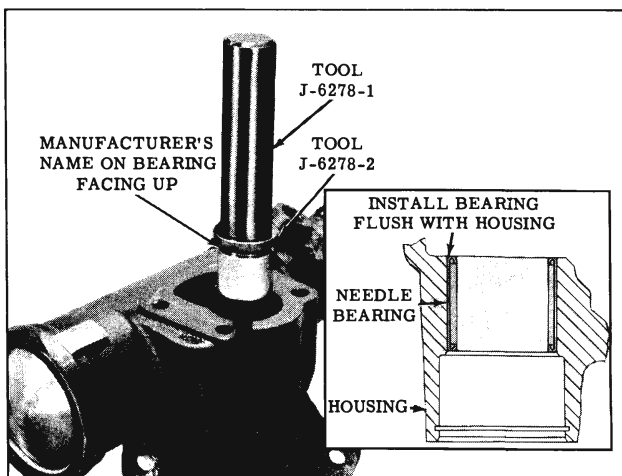

Fig. 4-271 Installing Pitman Shaft Bearing
1. If the pitman shaft needle bearing was removed, place Adaptor J-6278-2 over Tool J-6278; slide the new needle bearing on the tool with the bearing manufacturer's identification against the adaptor and drive the bearing into the housing until adaptor bottoms in housing. (Fig. 4-271)